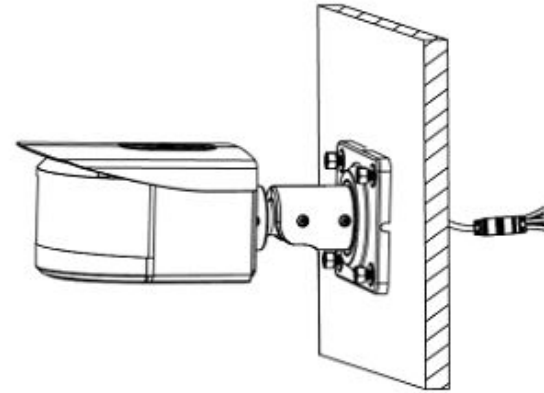

Figure 2-3
Step 3 Tighten down the mounting screws. For mounting surface cable exit, see Figure 2-3.